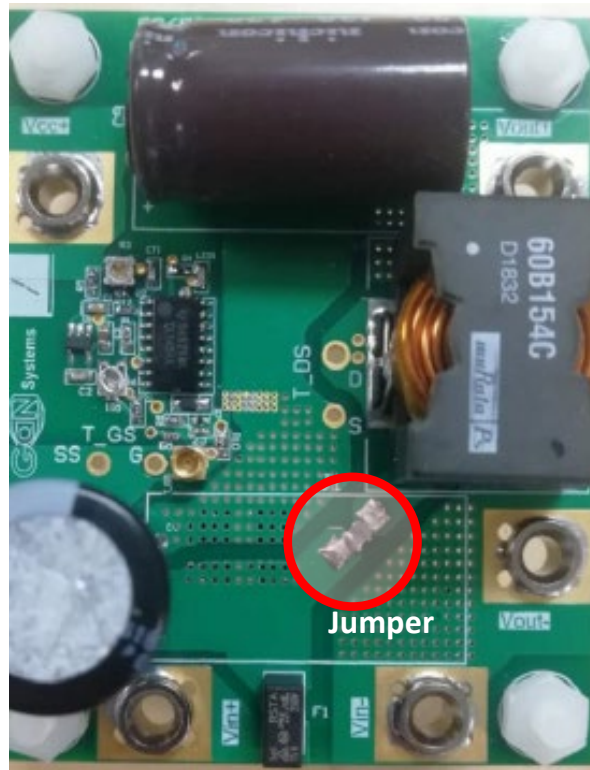

Figure 7 • Current Sensing Jumper Location
**Figure 7** shows the jumper location. **Figure 8** shows how to replace the jumper with a loop of jumper wire to take the current measurement with a current probe. The jumper wire loop and the current probe are not included in the Evaluation Kit.